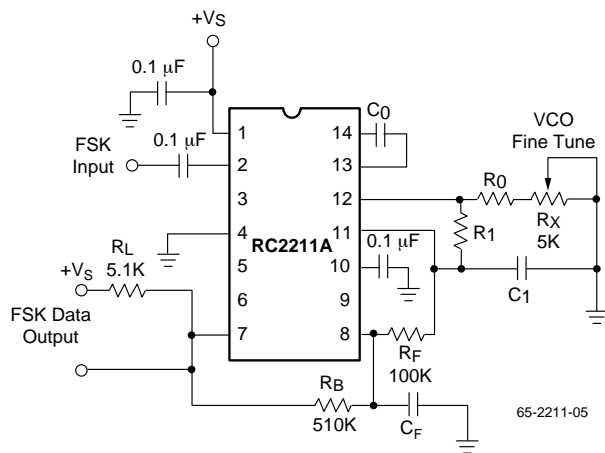

Figure 2. Circuit Connection for FSK Decoding
Figure 2 shows the basic circuit connection for FSK decoding. With reference to Figures 1 and 2, the functions of external components are defined as follows: R0 and C0 set the PLL center frequency, R1 sets the system bandwidth, and C1 sets the loop filter time constant and the loop damping factor. CF and RF form a one pole post-detection filter for the FSK data output. The resistor RB (510 kΩ) from pin 7 to pin 8 introduces positive feedback across FSK comparator to facilitate rapid transition between output logic states.
Table 1. Recommended Component Values for Commonly Used FSK Bands (see Circuit of Figure 2)
The circuit of Figure 2 can be tailored for any FSK decoding application by the choice of five key circuit components: R0, R1, C0, C1 and CF. For a given set of FSK mark and space frequencies, F1 and F2, these parameters can be calculated as follows:
**Note:** All calculated component values except R0 can be rounded off to the nearest standard value, and R0 can be varied to fine-tune center frequency through a series potentiometer, RX (see Figure 2).